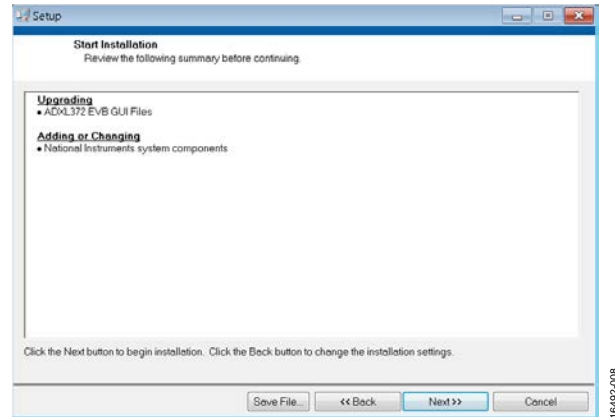

Figure 8. **ADXL372 Evaluation Board GUI Start Installation**
3. Read the license agreement before accepting it. Click **Next**. The installer lists the required components to install on your PC (see Figure 8).